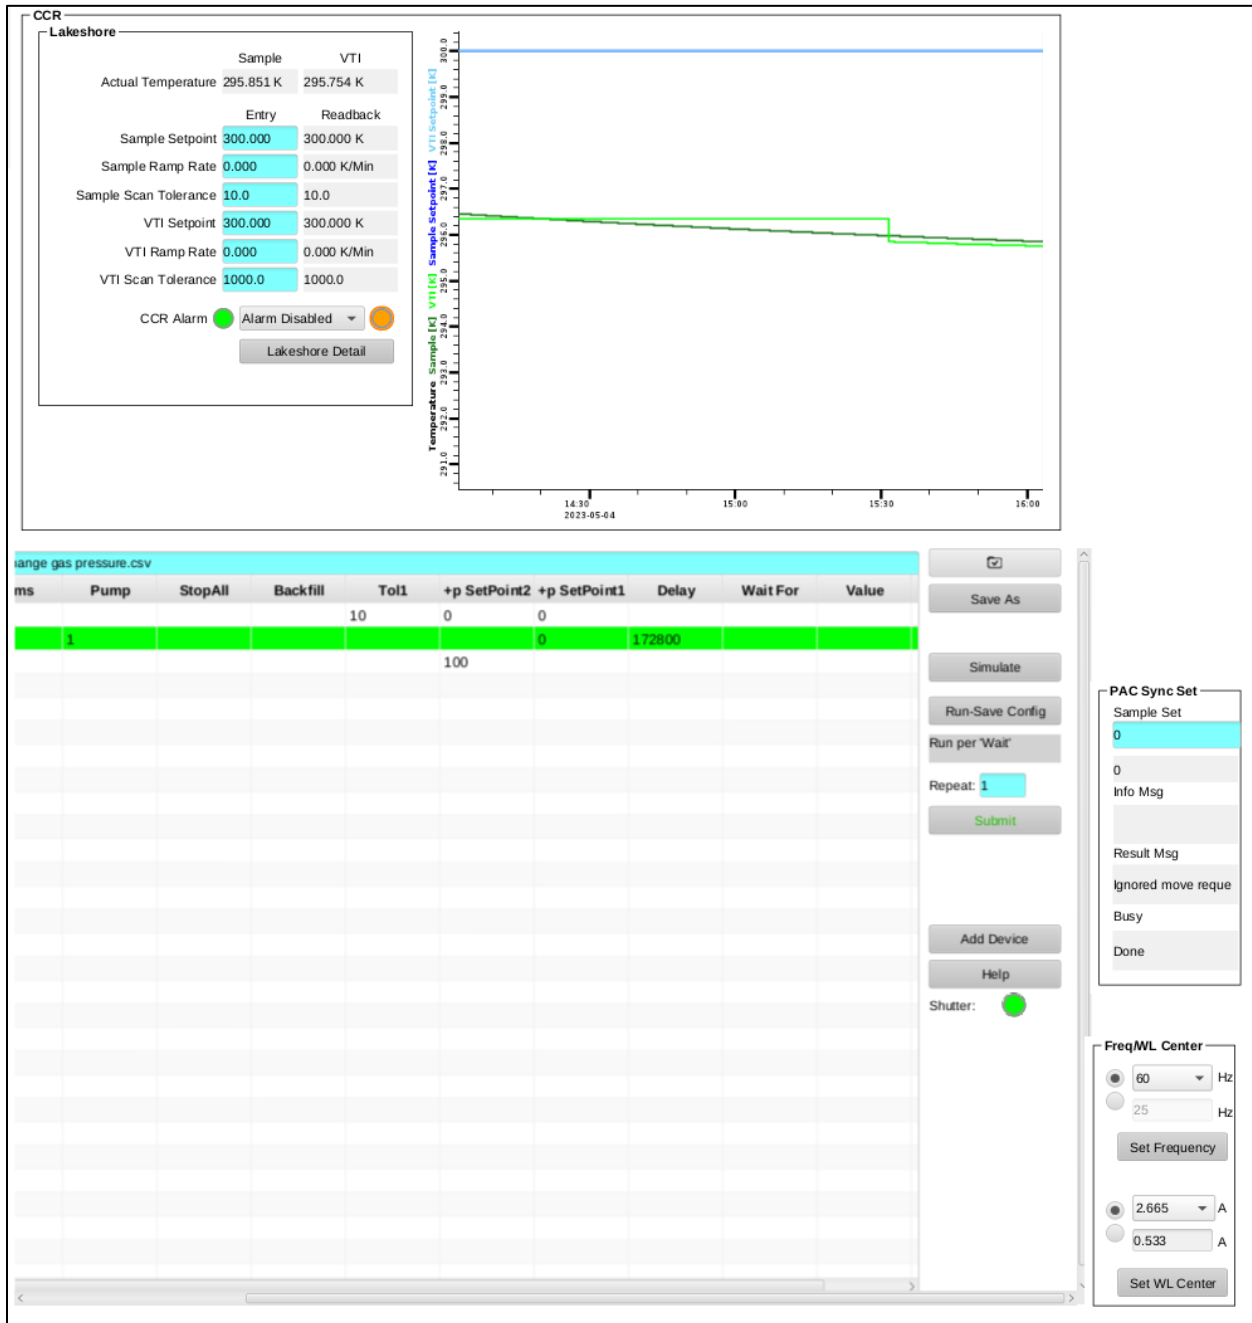
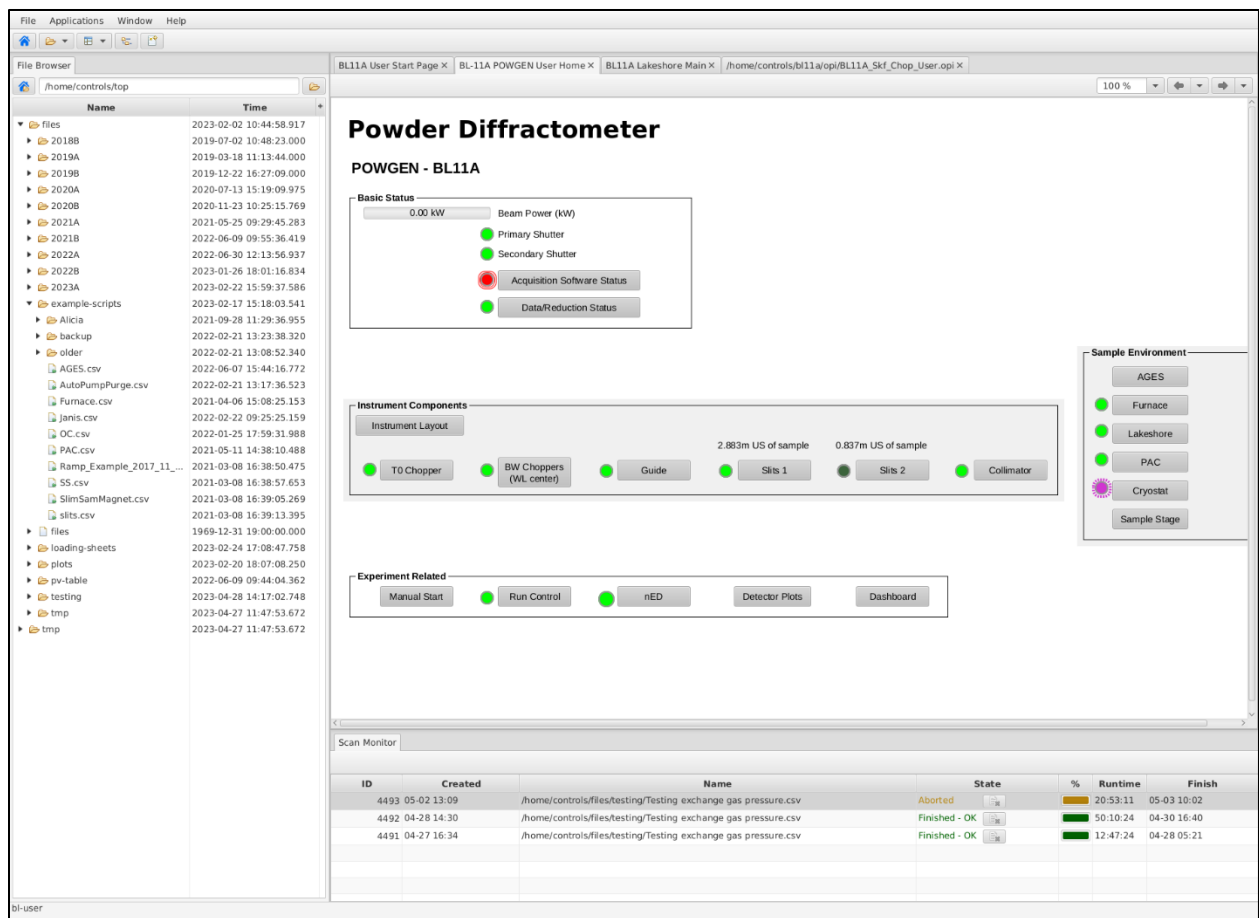

Figure 4. Center area of the dashboard, showing temperature controls at top and table scan controls at the bottom.
Figure 7. Additional screens shown on the left side of the control computer.
**Sample Environment and Table Scan Controls** The center section (Figure 4) of the dashboard displays a plot of the sample temperature and sample environment controls, including the setpoint, ramp rate and tolerance. Note that this area is customized for sample environment in use and may look different if you are not using the sample changer (PAC). Underneath the temperature plot are the table scan controls, used for automating data collection. The use of table scans will be discussed later. To the right of the table scan controls, the PAC Sync Set box may be used to select a sample. When using other sample environment equipment, this box will change appropriately. The Freq/WL Center box may be used to change the bandwidth chopper settings. Most user experiments will use a frequency of 60 Hz and one of the center wavelength options from the dropdown menu. In each case, you must first select the desired value, then press the Set button.
Additional screens (Figure 7) are available on the left side of the monitor with more instrument information. The File Browser pane on the far left displays the file structure. Files may be opened from the File Browser pane by double-clicking. User table scripts are saved in /home/controls/top/files/.
Between the File Browser and Dashboard are tabbed windows with more information about the beamline equipment. The BL-11A POWGEN User Home tab has indicator lights for the status of each piece of beamline equipment. All status lights should be green when functioning properly. The Table Scan tab contains similar table scan controls as are in the Dashboard (Figure 4). The BL11A\_Skf\_Chop\_User tab shows status lights for each of the three bandwidth choppers, along with the frequency and phase settings. The PAC Seq tab shows the status of the sample changer, with the sample currently in beam highlighted in orange. The BL11A CCR tab shows the temperature controls and plot, as in the Dashboard (Figure 4). Other tabs may be present depending on the sample environment equipment installed at the beamline.
**Simulation** Once your table scan file is prepared, you may simulate it. The program will run through the script, line-by-line, without actually changing any parameters, and estimate the total time. To simulate a script, it must first be loaded into the EPICS software. On the central area of the dashboard (Figure 4), click on the folder icon. Browse to and select your file. The table below should automatically be filled with the entries from your script. Finally, press the Simulate button. On the left side of the monitor, the simulation output will be displayed. Each change of an instrument setting will be outlined, along with the estimated time to execute each line of the script, and at the bottom, the total estimated time to execute the entire script will be listed. Check the simulation output carefully to ensure that everything is as expected.
**Submitting a Script** Once your script is ready and the simulation output has been verified, you may submit your script by pressing the Submit button (Figure 4). A line will be added to the top of the Scan Monitor pane (Figure 7, bottom), representing that script. The Scan Monitor shows the filename, status (Aborted, Failed, Finished or Running), runtime, estimated finish time and which command is currently executing.